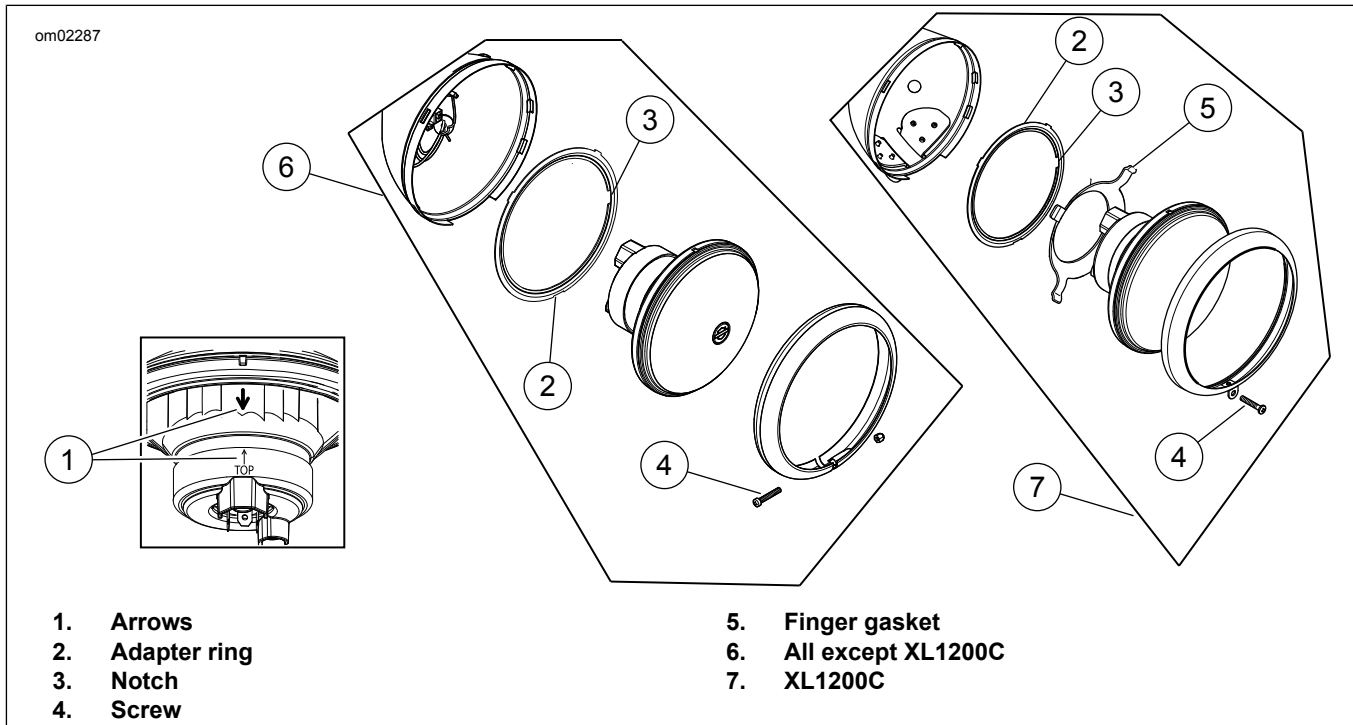

Figure 73. Headlamp Assembly
3. See Figure 73. Loosen the trim ring screw (4). Remove the trim ring.
3. See Figure 73. Match the rubber boot TOP arrow to the reflector arrow (1). Fit the rubber boot over the spade terminals of the bulb. Press the air out of the boot to seal over the lens and the reflector assembly.
5. Verify that the adapter ring (2) is in place with the two tabs of the ring in the two bulges in the headlamp shell.